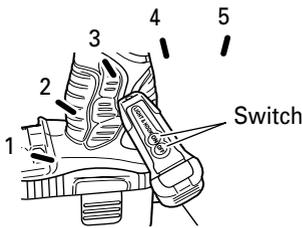

Fig. 9
- (1) Press the switch to turn off the light. If forgotten, the light will turn off automatically after 15 minutes.
- (2) The direction of hook positions 1 - 5. (Fig. 9)